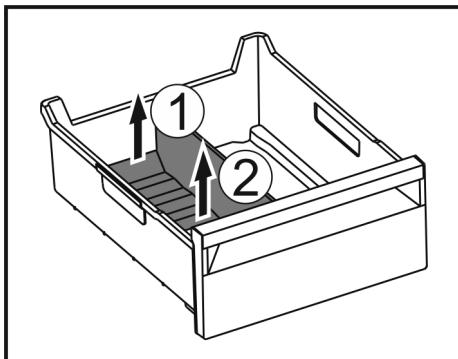

Fig. 139
► Lift the rear part of the ice compartment divider. Fig. 139 (1)
► Remove the ice compartment divider upwards. Fig. 139 (2)